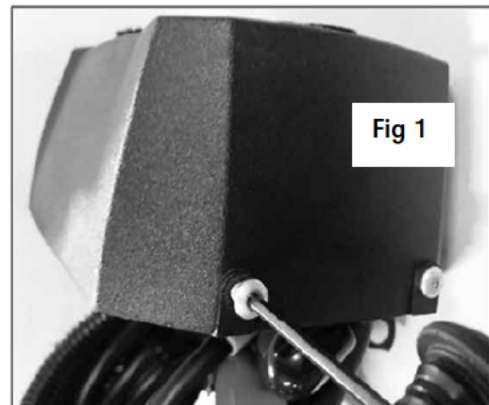

Fig 1
1. Remove the control box cover bolts. Carefully remove the control box cover. There will be remote plug wires attached to the cover. Fig 1+2